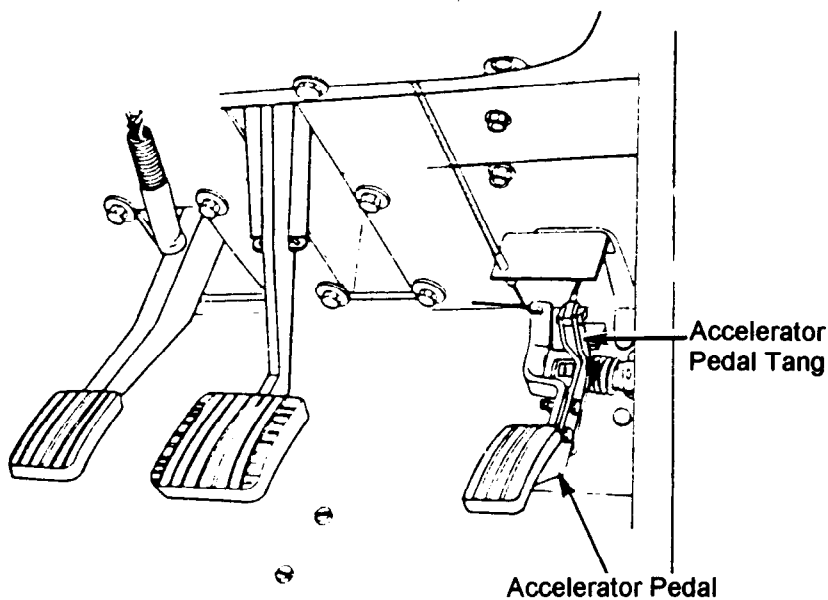

Figure 3 - Accelerator Pedal Tang
- e. If engine idle speed exceeds 630 - 670 rpm bend the tang at the top of the accelerator pedal, see Figure 3, to allow the pedal to fully return to the idle position.